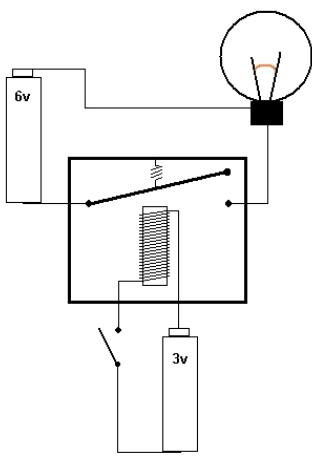

Figure 1: Relay off
- In Figure 1 of the diagram, there are two circuits. The first circuit is a battery (3 volts), a switch and an electromagnet. The second circuit is a battery (6 volts), a light bulb and the relay's armature. While the switch to the electromagnet is off, no current can flow from the 3 volt battery through the electromagnet. So, the armature-switch is off and no current can flow from the 6 volt battery to power the lamp in the second circuit.
- This is the electronic schematic of the circuits from figures 1 and 2 above.